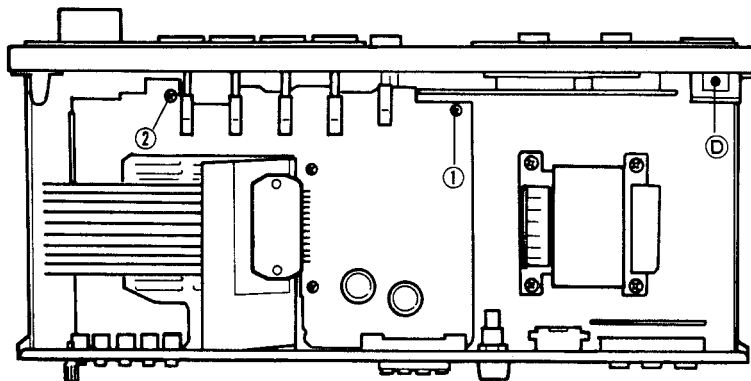

Fig. 2
4. Remove screws ⑨ ~ ⑪ and plastic rivet ⑫ to set the front panel free. (Fig. 2, Fig. 4)